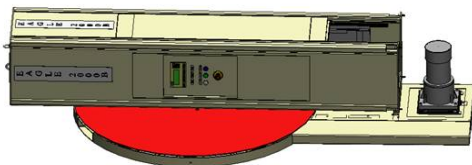

Fig. 2-4a
Step 2 - Remove the lower rear inspection panel on the mast prior to raising the mast. The panel is located on the end of the machine next to the turntable motor. The panel has a warning label affixed to it. (See Fig. 2-4a & Fig. 2-4b)